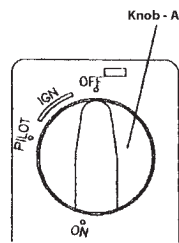

Figure 4
- a. Turn knob-A (Figure 4) slightly left towards the 'IGN' position until reaching stop, press down and hold for five seconds (only pilot gas flows).
- a. Turn knob-A (Figure 4) right until reaching stop.